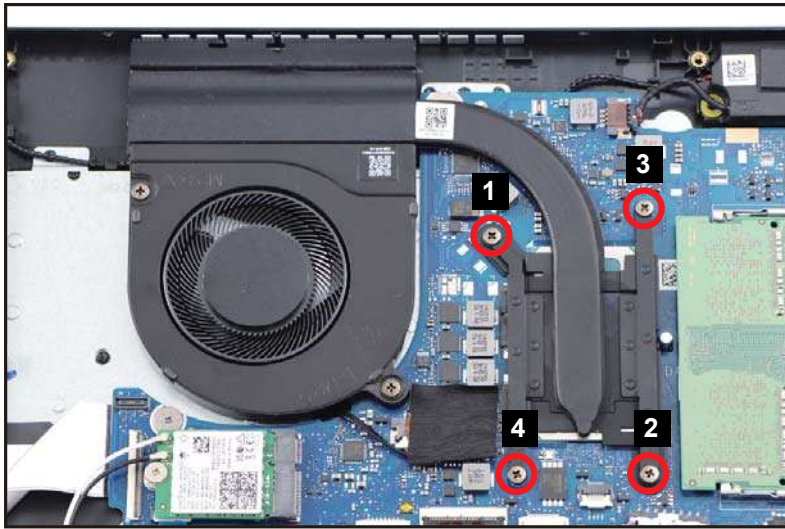

Figure 3-106. Replacing the Heatsink
4. Install and secure four (4) screws to the heatsink (Figure 3-106). Ensure the heatsink is properly aligned and seated.